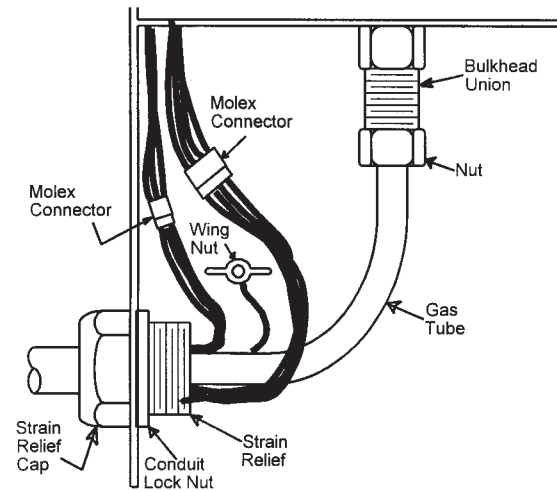

FIGURE A.1 — Torch Connections.
- To remove a torch from the Pro-Cut, refer to Figure A.1 and do the following: